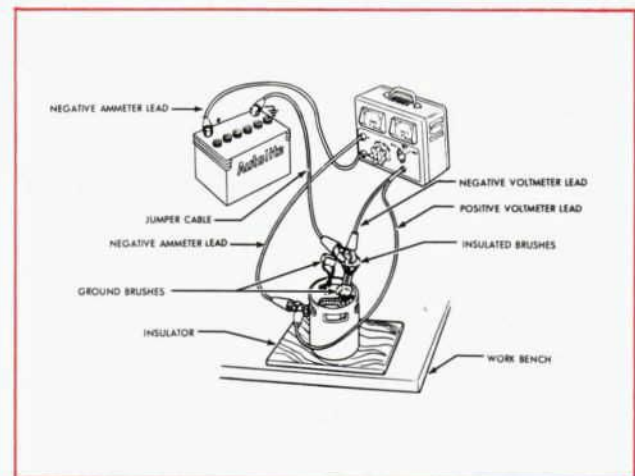

Figure 6—Field Coil Open Circuit Test
4. Connect a heavy jumper wire from the negative battery post to the two insulated brushes (Fig. 6).